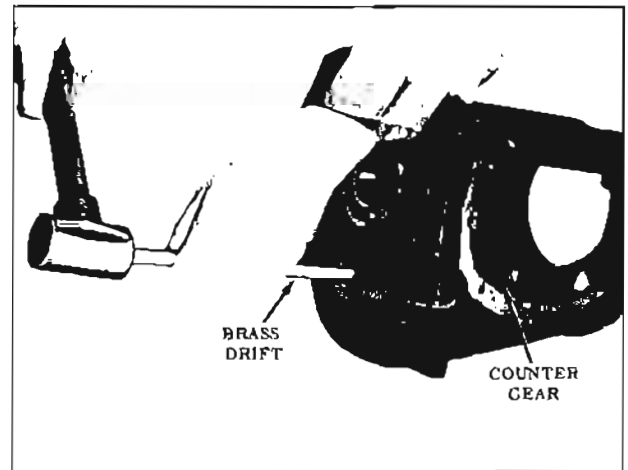

Fig. 11-224 Counter Gear Removal
2. From the front of the case JUST START the counter gear shaft until free in case by using a brass drift and hammer as shown in Fig. 11-224. Remove the key from rear of shaft. Then use counter gear loading tool J-9573 to push the counter gear shaft from the counter gear.